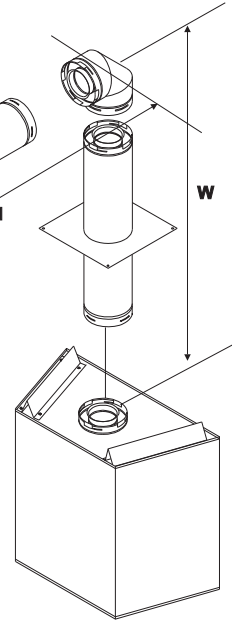

Figure 8
Figures 8 and 9, and Tables 5 and 6 show examples of possible installations using three (3) 90-degree elbows. Dimensions V are listed **MINIMUM** first vertical dimensions and dimensions H are listed as beginning **MAXIMUM** horizontal dimensions. Dimensions H+H₁ and H+H₁+H₂ are listed as **TOTAL MAXIMUM** horizontal dimensions. Dimensions V+V₁ are listed as **TOTAL MAXIMUM** vertical dimensions.